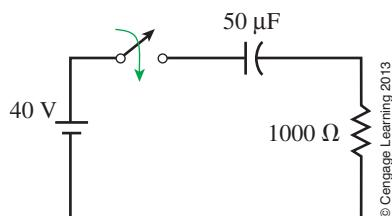

FIGURE 11-67
46. Obtain a plot of circuit current and resistor voltage for the circuit of Figure 11-67. Assume an initially uncharged capacitor. Use the cursor to read values at $t = 50 \text{ ms}$ and confirm analytically. Repeat if $V_0 = 100 \text{ V}$.